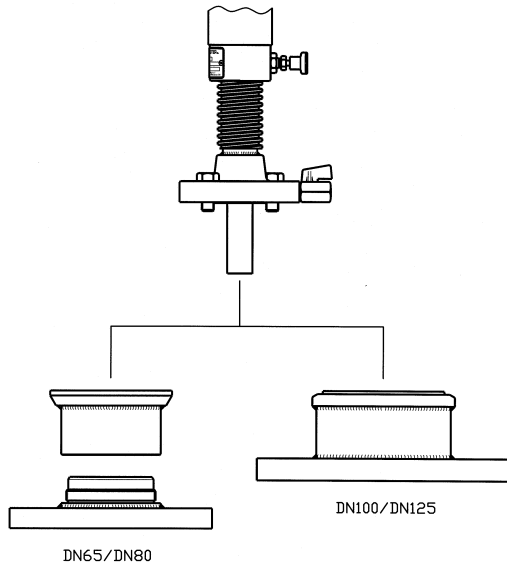

Figure 6
- Choose the flange adapter which matches the valve flange size installed on the branch connection. Refer to *Figure 6*.